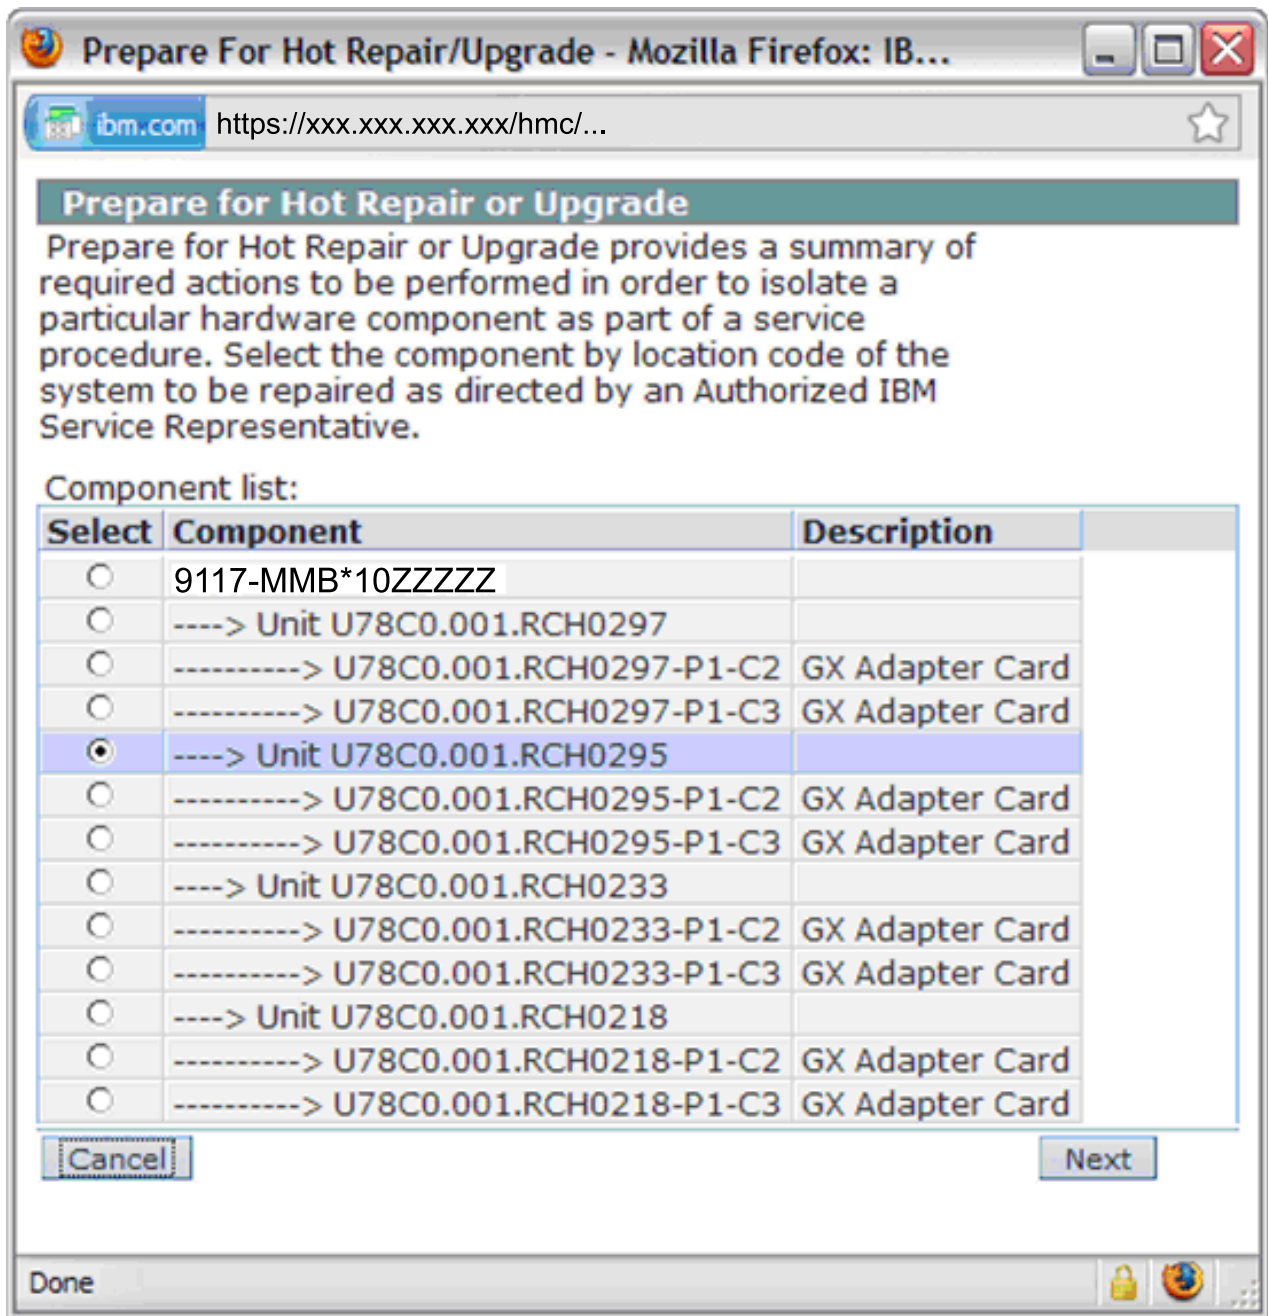

Figure 1. FRU selection within Prepare For Hot Repair or Upgrade Utility
4. Select the base location code that contains the field-replaceable unit (FRU) to be serviced or the GX adapter card to be replaced as shown in Figure 1 on page 3.